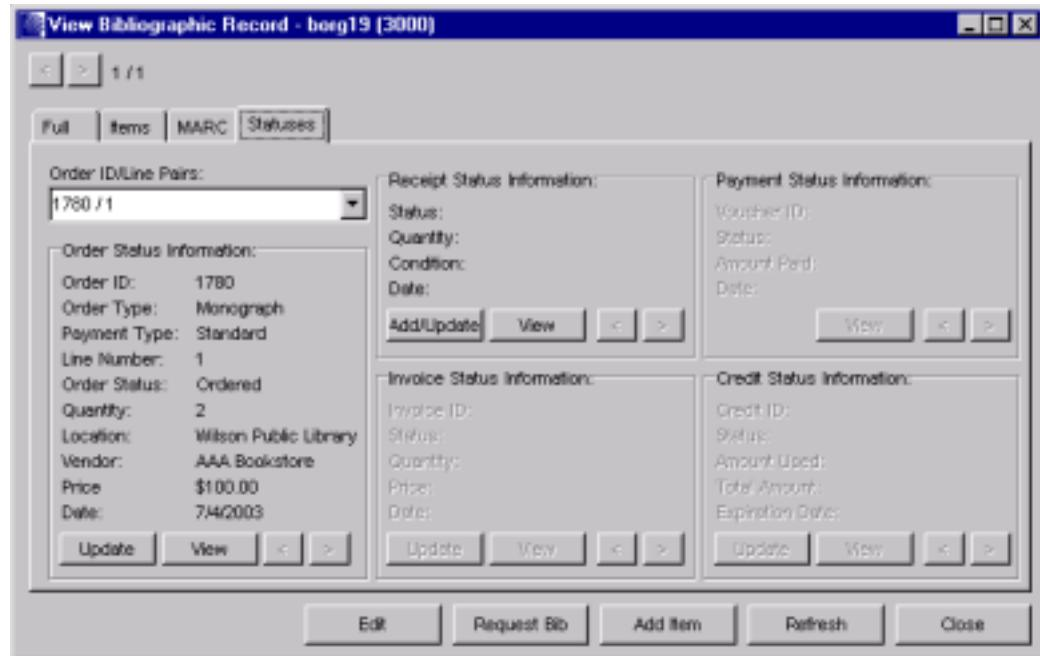

Figure 6-1. View Bibliographic Record Window - Statuses Tab
- Display the Statuses tab of the View Bibliographic Record window in the OPAC, and click the Add/Update button in the Receipt Status Information area (*Figure 6-1*):